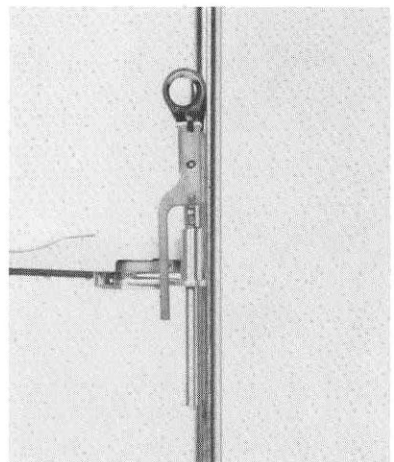

Fig. 44
- (8) When the Hruby lens is not being used, simply pull the Hruby lens up so that the lower end of the shank no longer engages the coupling groove of the guide plate. Then, move the Hruby lens attachment mount³² to the right, as far as it will go, and revolve the lever^A to the right, too. The Hruby lens can be left in this position until it is next used. (See Fig. 44)